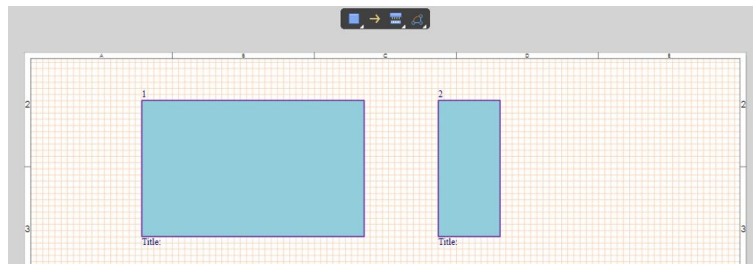

Figure 7. Modules added to MB Schematic
20. The two rectangles should resemble Figure 7 below.